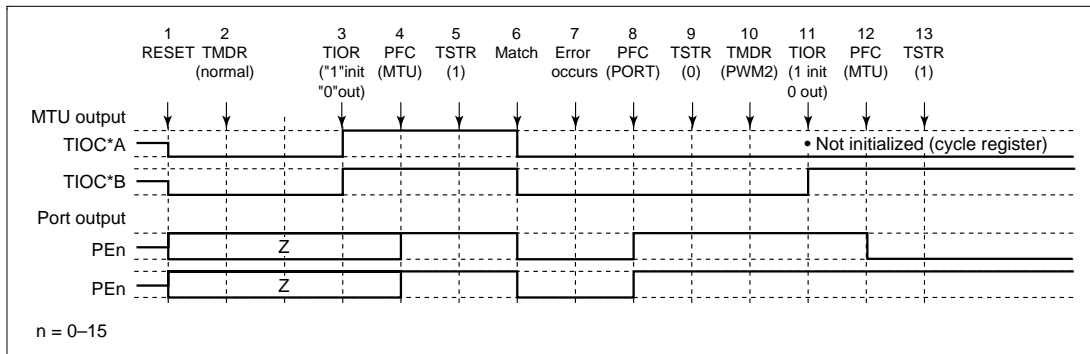

Figure 10.63 Error Occurrence in Normal Mode, Recovery in PWM Mode 2
(3) Operation when Error Occurs during Normal Mode Operation, and Operation is Restarted in PWM Mode 2: Figure 10.63 shows an explanatory diagram of the case where an error occurs in normal mode and operation is restarted in PWM mode 2 after re-setting.